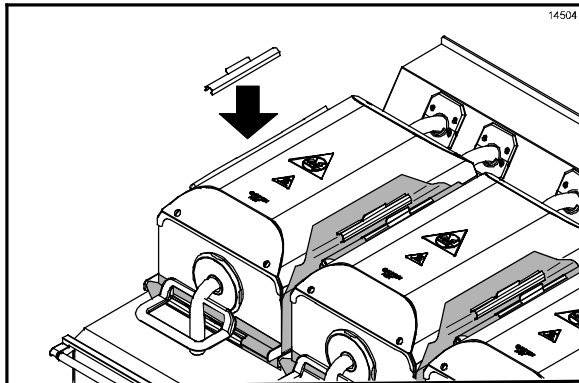

Figure 114
7. Reinstall the release sheets. (See Figure 114.)